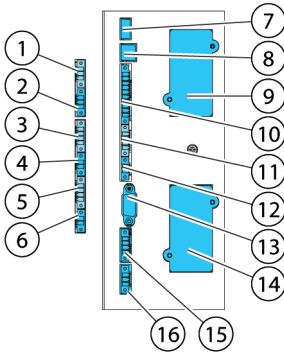
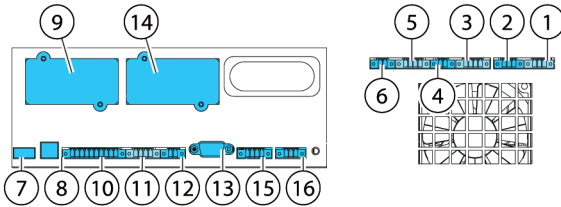

Figure 26. Communication interfaces in the 15/20 kW standard and C-model frames
Figure 27. Communication interfaces in the 30/40 kW frame
2. Terminal blocks TB6, TB7 and TB8 are for external parallel control signals (see Figure 26 and Figure 27).
See Figure 26 and Figure 27 for the location of communication interfaces in 91PS/93PS UPS.